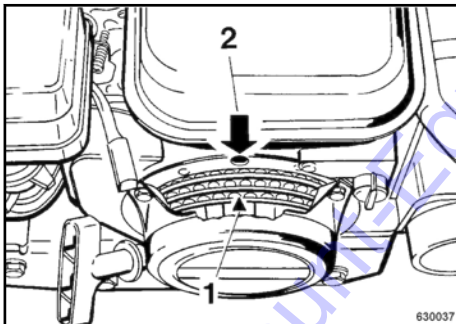

Fig. 52
For this purpose align the alignment mark (1) ↗ Fig. 52 on the starter disc to the top bore (2).